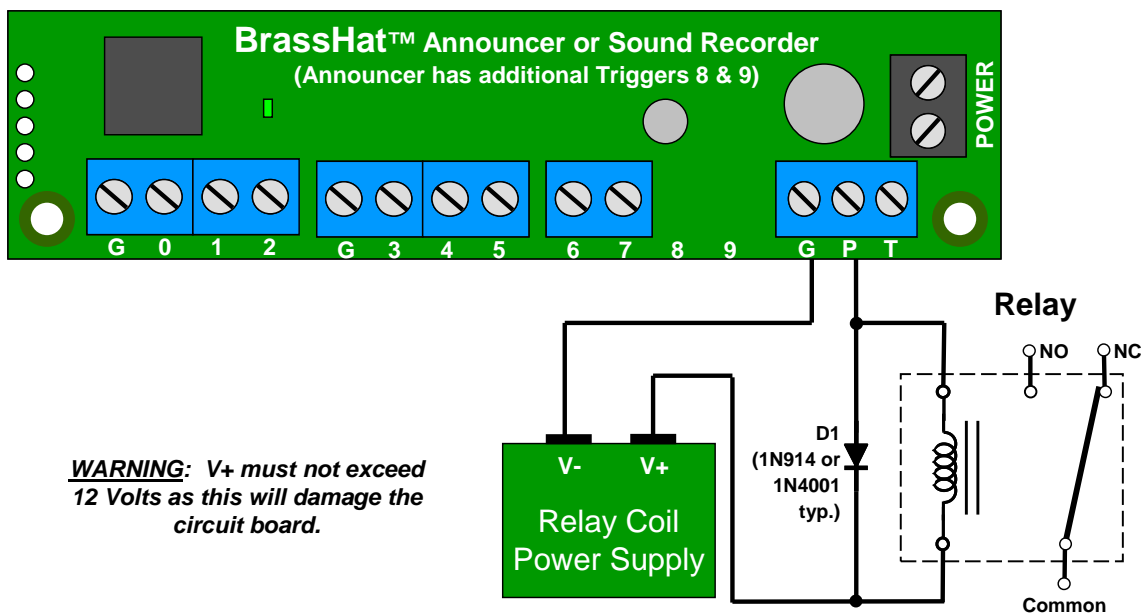

Figure 5: Driving a Relay During Playback
Figure 5 shows how the Playing Output (P) from the **Sound Recorder** circuit board can be wired to drive a relay. The Triggered Output (T) can be used similarly to drive a second relay. The V- connection to the Relay Coil Power Supply can be to any of the “G” inputs on the **Sound Recorder**.